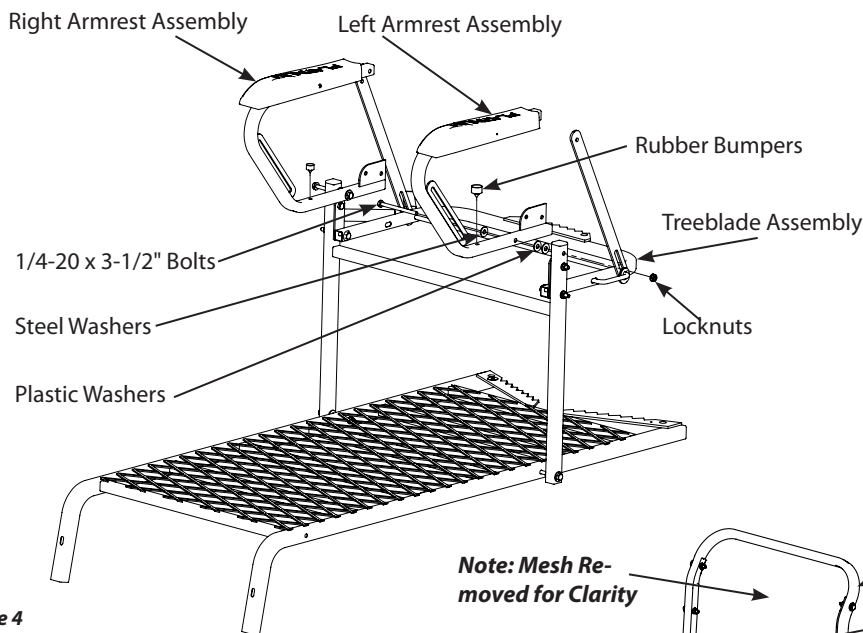

Figure 4
4. Attach the left armrest assembly (14349) and the right armrest assembly (14348) to H-frame weldment (14001) using (2) provided 1/4-20 x 3-1/2" bolts, locknuts, (4) plastic washers, and (2) steel washers. Press-fit rubber bumpers (48679) onto each armrest assembly. Plastic washers should be placed between the armrests and the H-frame. **SEE FIGURE 4.**